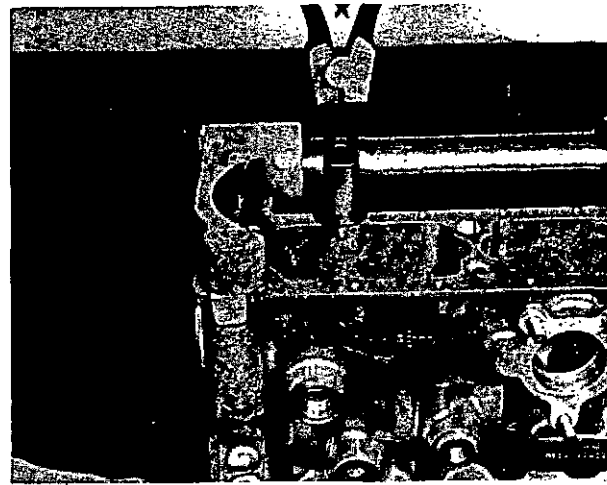

Fig. 37 Fitting control sleeves
11. Set the control rack to mid-position (i.e. with control sleeve notches in line with tappet guides) and fit the control sleeves (fig. 37), ensuring that in each case the driving ball is engaged with the rack notch. Check that the rack has free and full movement.